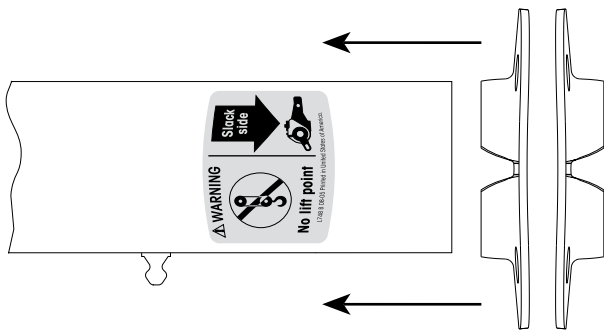

Figure 25: Install brackets back-to-back on cam tube
5. **Arrange** the two cam tube brackets back-to-back (Figure 25) and **slide** them onto the end of the cam tube assembly until they contact the suspension beam.